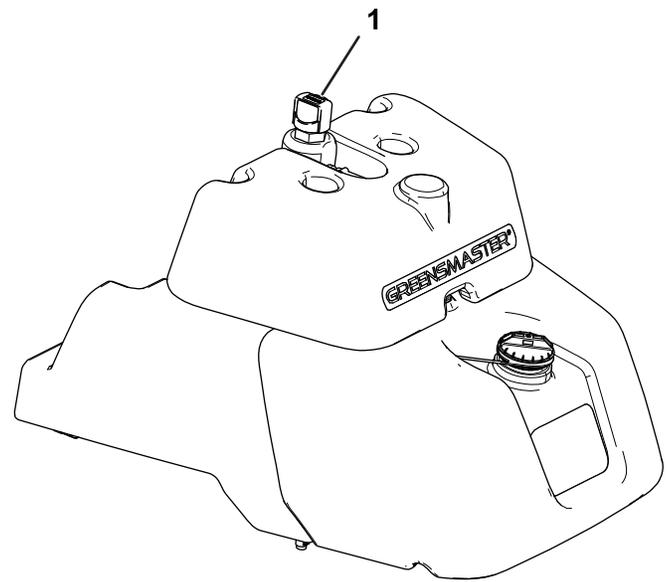

Figure 52
2. Locate the dipstick on the top of the main hydraulic tank (Figure 52) and proceed to step 3.